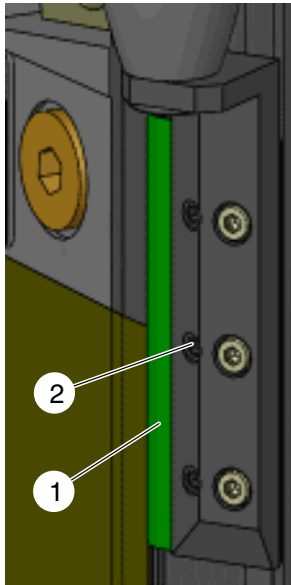

Fig. 23 Nozzle closure
3. Adjust the nozzle closure plate (1, Fig. 23) in the slots and with the setscrews (2, Fig. 23) such that the plate rests against the nozzle slot but can still be moved.